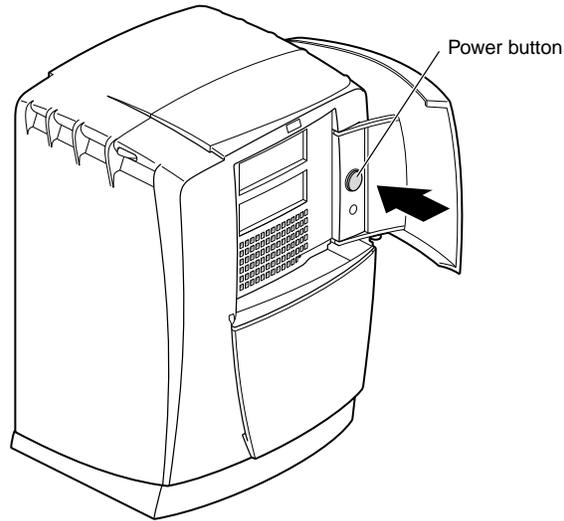

Figure 1-18 Powering On the Octane2 Workstation
6. Power on your workstation, as shown in Figure 1-18.